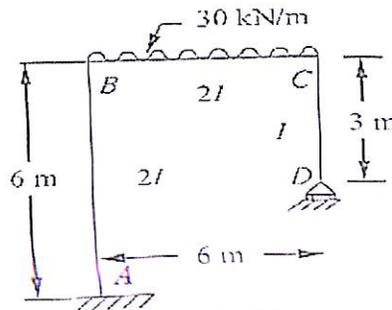

Fig Q3
- Q3 Analyse the frame shown in fig. Q3 by Moment distribution method and draw SFD and BMD 20